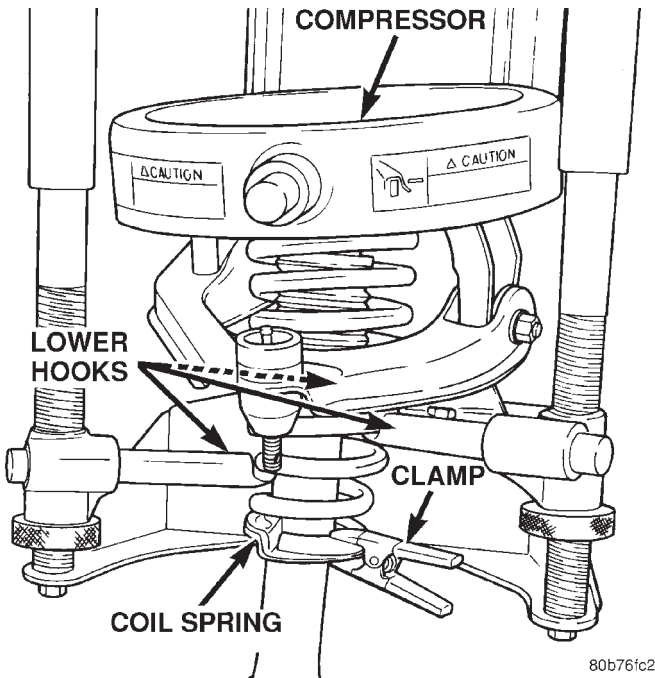
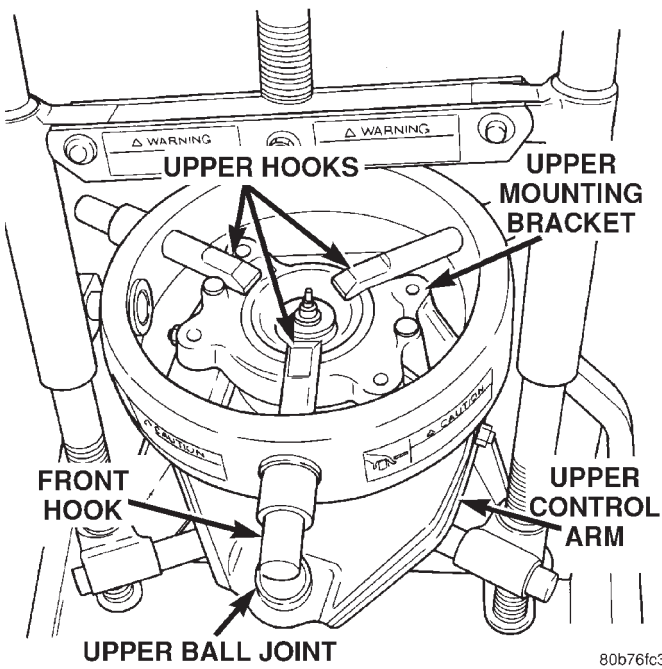

Fig. 69 Lower Hooks And Clamp
Fig. 70 Upper Hooks Positioned
(1) If both shocks are being serviced at the same time, mark the coil spring and shock assembly according to which side of the vehicle the shock was removed from, and which shock the coil spring was removed from.
(2) Position the shock assembly in the strut coil spring compressor following the manufacturer's instructions. Set the lower hooks and install the clamp on the lower end of the coil spring, so the shock is held in place once the shock shaft nut is removed (Fig. 69). Rotate the shock assembly so the upper control arm ball joint sits directly below the front upper hook as shown (Fig. 70). Position the upper hooks on top of the upper mounting bracket (Fig. 70).
(3) Place the lower end (smaller diameter) of the coil spring in the spring compressor supported by the lower hooks, following the manufacturer's instructions. Position the coil spring lower end tip at the position it was at before coil spring removal from the compressor as noted in step of **DISASSEMBLY**. Proper orientation of the spring in the compressor is necessary for proper alignment of all shock assembly components.
(4) Install the upper (shock absorber/upper control arm) mounting bracket on top of the coil spring matching the coil spring to its isolator on the upper mounting bracket. Position the upper control arm ball joint so it lies directly below the front upper hook as shown (Fig. 70).
(5) Position the upper hooks on top of the upper mounting bracket as shown (Fig. 70).
(6) Compress the coil spring.
should set into the notch of the shock absorber lower seat and isolator. Install the clamp temporarily securing the shock absorber to the coil spring (Fig. 69).